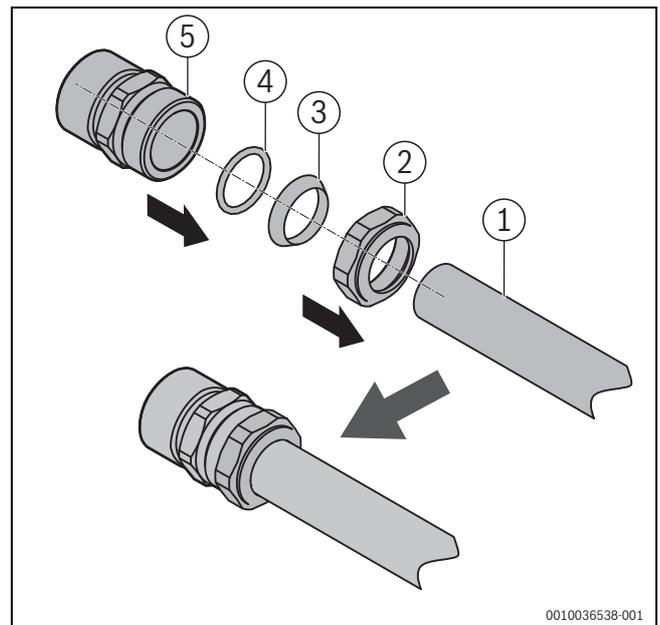

Fig. 6 Assembly of the compression fitting
- ▶ **Mount connection sets** (accessories) on the pipe as shown in figure 6.